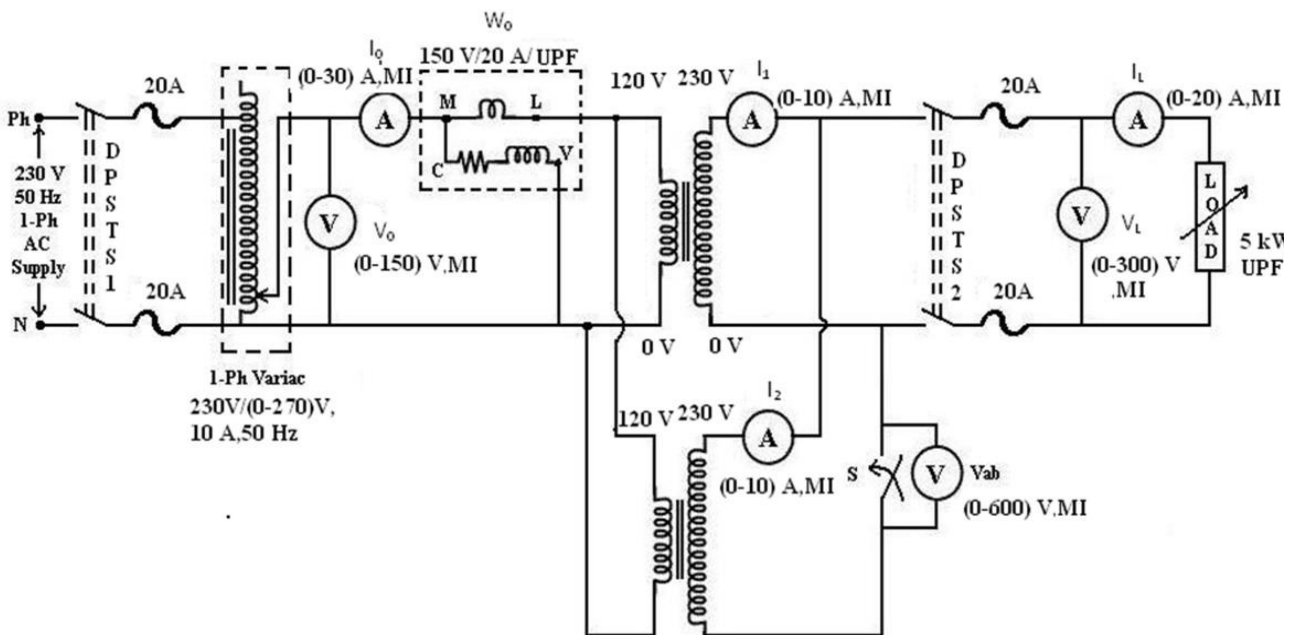

Fig 7.1: Circuit diagram for parallel operation
1. Make the connections as per the fig 7.1.